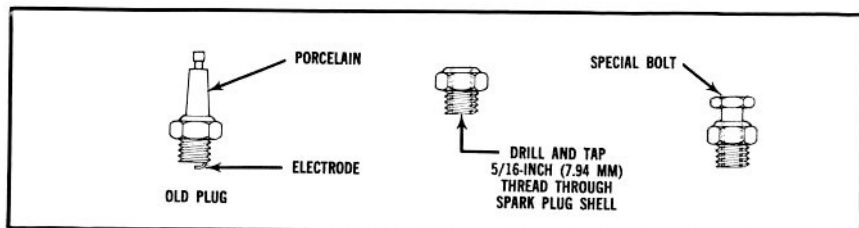

FIGURE 11
4. Remove the porcelain and ground electrode from a spark plug and drill and tap a 5/16-inch (7.94 mm) thread through the spark plug shell (Figure 11). Thread the special bolt into the shell. This assembly is your piston stop.